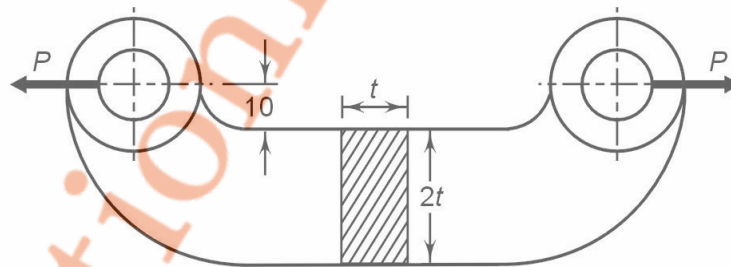

Fig.1
- (c) An offset link subjected to a force of 25 kN is shown in fig.1. It is made of grey cast iron FG300 ( $S_{ut}=300$  MPa) and FOS is 3. Determine the dimensions of cross-section of the link. **07**